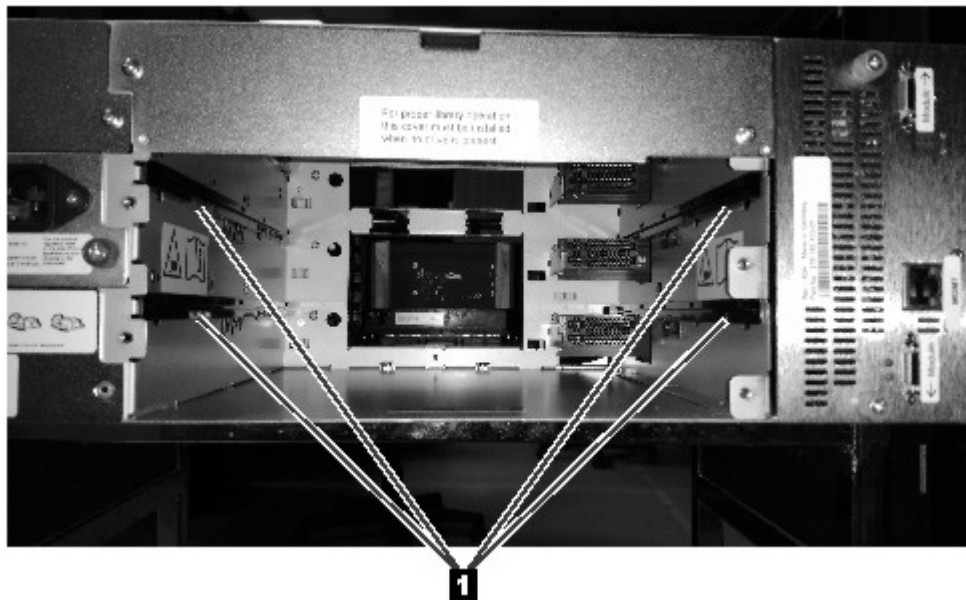

Figure 60. Alignment rails
- 2. Align and slowly insert the new tape drive into the drive bay along the alignment rails (**1** in Figure 60) while the drive assembly is supported. The tape drive must be flush with the back panel of the library.